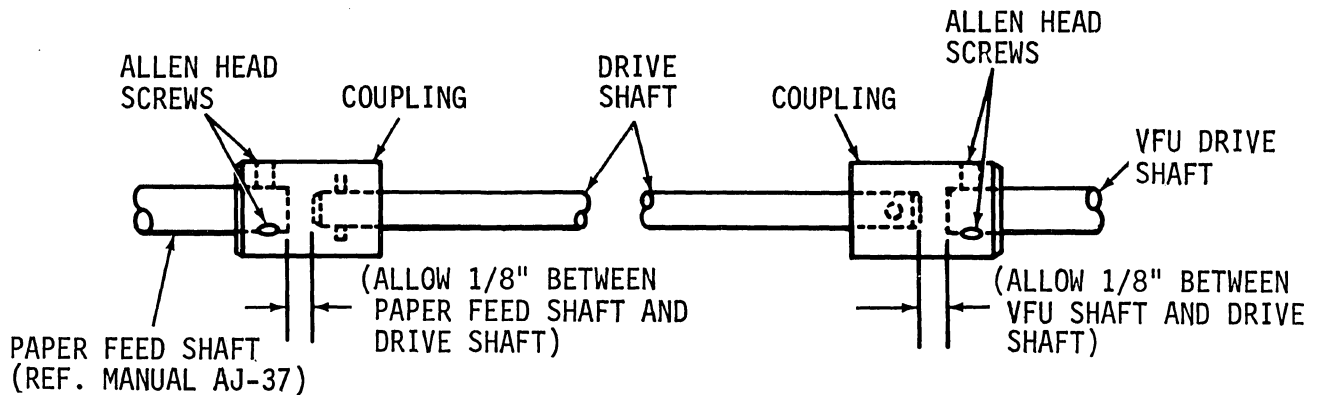
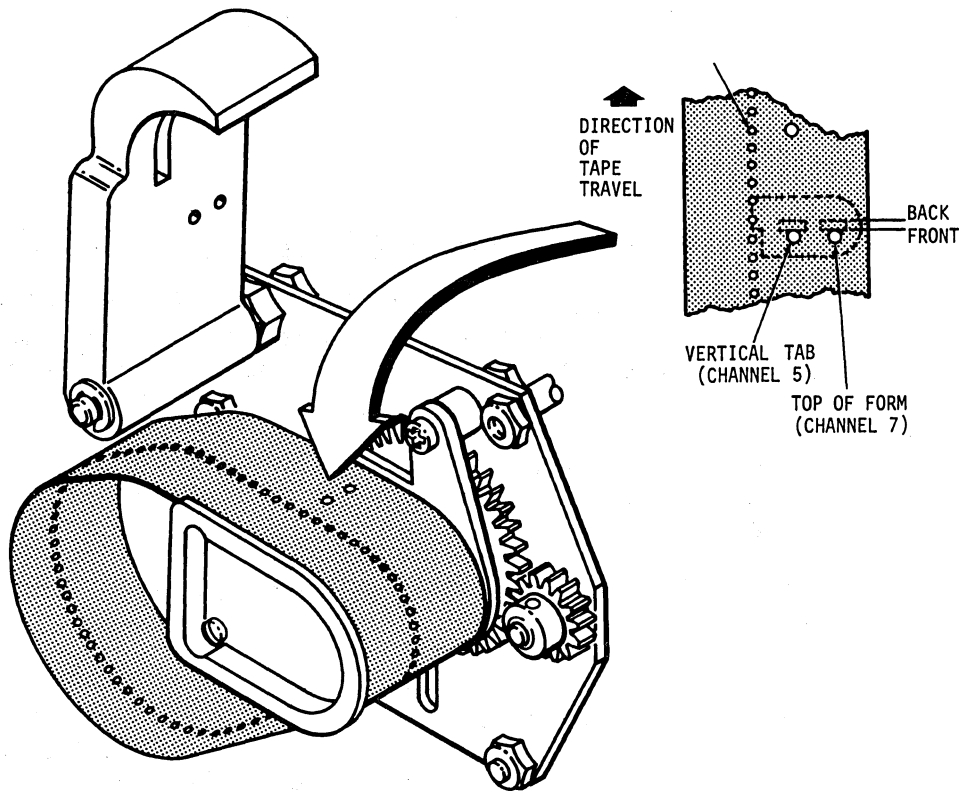

Figure 5-26. REMOVAL/REPLACEMENT OF DRIVE SHAFT 63060142-5001 AND COUPLINGS 63060144-2002 FOR VFU ASSEMBLY
Figure 5-27. PAPER TAPE READER ADJUSTMENT
1. Using a 1/16-in. (1.6 mm) allen wrench, loosen two 6-32 allen head screws (item 10 from kit) on right-hand coupling (item 11 from kit). Coupling is projecting to the left through right chassis frame, AI-1 on form feed shaft (BJ-37). (Refer to Fig. 5-26)
2. Using a 1/16-in. (1.6 mm) allen wrench, loosen two allen head screws (item 10 from kit) on left-hand coupling (item 11 from kit) located on shaft (Fig. 5-26 of VFU unit).
3. Remove the left and right couplings after removing connecting drive shaft (item 9 of kit).
7. To replace or install VFU unit, reverse steps D.1. through D.5. and use Fig. 5-26 for reference.
#### A. PAPER TAPE READER ADJUSTMENT/MAINTENANCE (SEE FIG. 5-27)
2. Loosen two set-screws on right-hand coupler on form feed shaft (Fig. 5-26).
3. Manually rotate drive shaft (Fig. 5-26) in a clockwise direction and observe the Top of Form (TOF) (channel 7) and the Vertical Tab (VT) hole (channel 5) as they move toward the rectangular slit holes on the lower tape reader (Fig. 5-27).
4. At the point where the leading edges of both the VT and TOF holes align with the front edges of the slits or light holes on the top of the lower tape reader, stop turning the shaft. (Fig. 5-27)